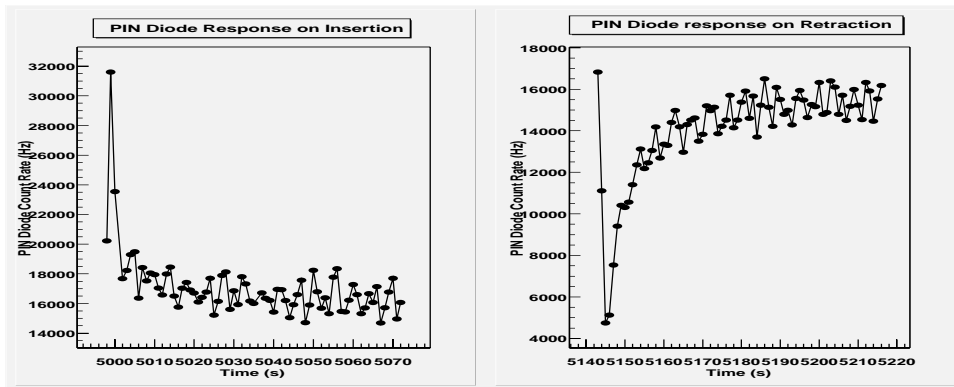

Figure 2: PIN Diode Response for insertion and retraction
- Watch the PIN diodes. Once the rates increase, the scraper is in the beam halo. Subsequent insertion of the scraper will show a large spike with a falloff as seen in figure 2. This is the initial scrape of the beam followed by beam diffusion. The steady state loss will be no less than before the insertion. There may even be a pulse in the BLM display if you are very far into the beam. On retraction of the scraper (i.e. Decreasing the step command on the horizontal or vertical), you will see a dropoff followed by a rise in the counts (assuming you are still in the beam) also seen in figure 2. The dropoff is you pulling out and the rise is the beam diffusion out to the collimator again. The steady state will be no greater than before you retracted.